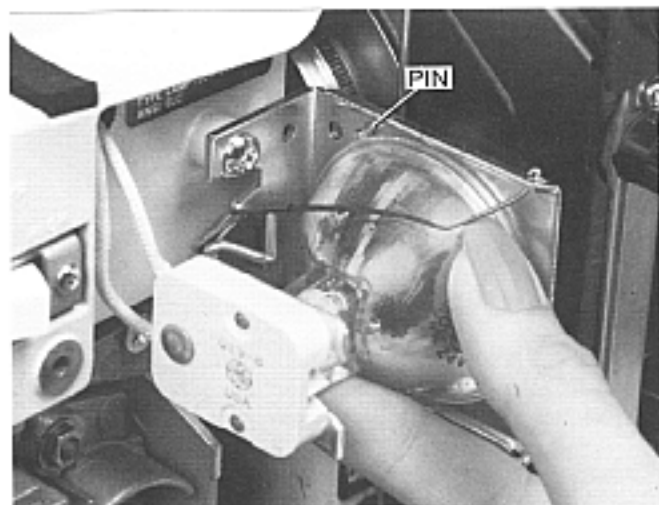

Figure 30
8. Push the base of the lamp into the socket until the lamp is stopped by the retaining pins, as shown in Figure 30. It is important that the lamp is firmly in its socket—otherwise, lamp performance may suffer, and the lamp and socket may overheat.